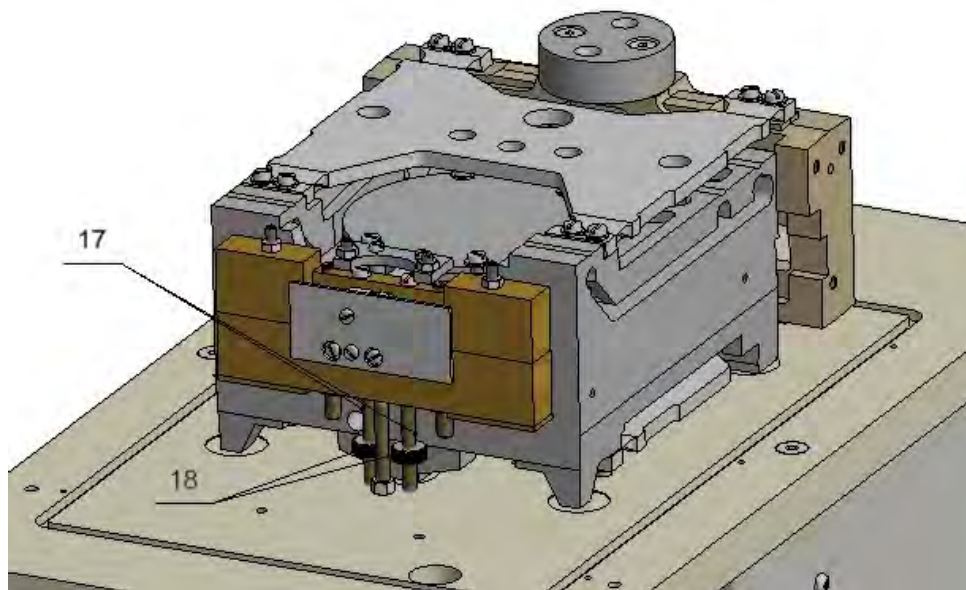

Fig.8
13. Unlock comparator's mechanism (16): undo two knobs (17) equipped with interlocking (18). (Fig.8)